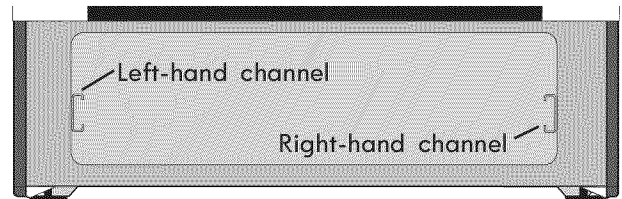

Figure 38: Channel alignment
2. Carefully line up both sides of the warmer drawer glide rails to the outer compartment glide channels located inside the empty warmer drawer compartment (See Figure 38).